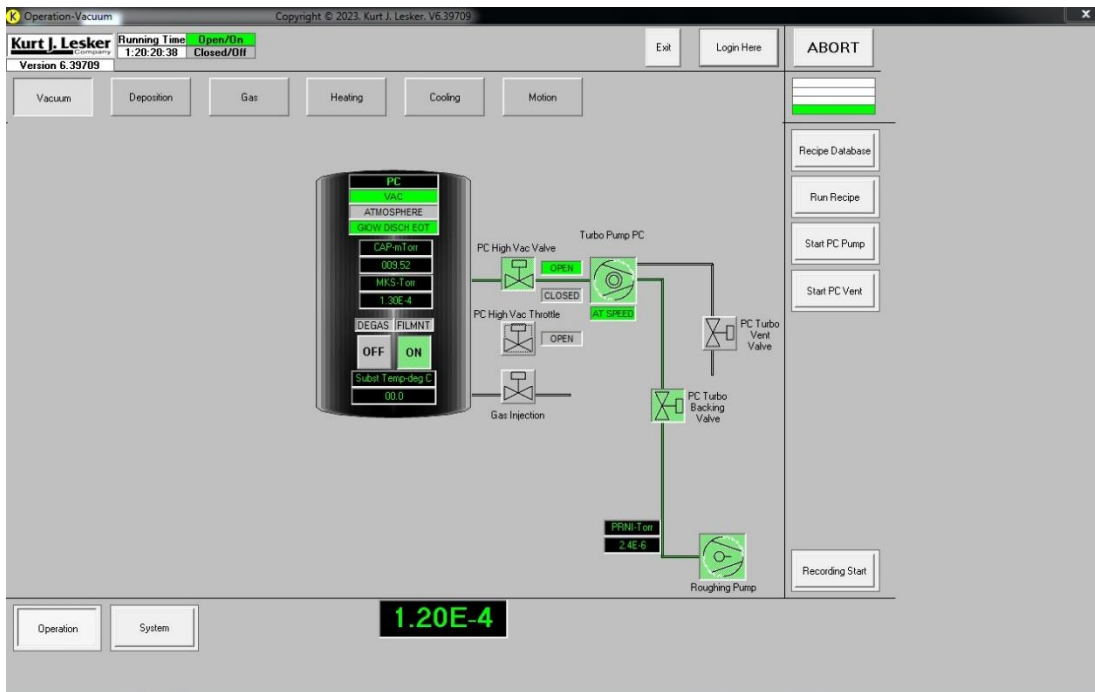

Figure 1 - Starting Status of AXXIS sputter coater.
1. Check that the system is functioning normally, i.e. pumps and valves are working and in the correct state to begin. The computer display should be as in Figure 1. If not, contact MNFC staff to help. It could be that the iLabs interlock is not working or the computer needs a reset.
9. The computer display screen should appear as in Figure 1.
10. On Vacuum screen, Figure 1.– Click Gas Injection Valve and PC High Vac Throttle buttons. Color will change from green to grey again.